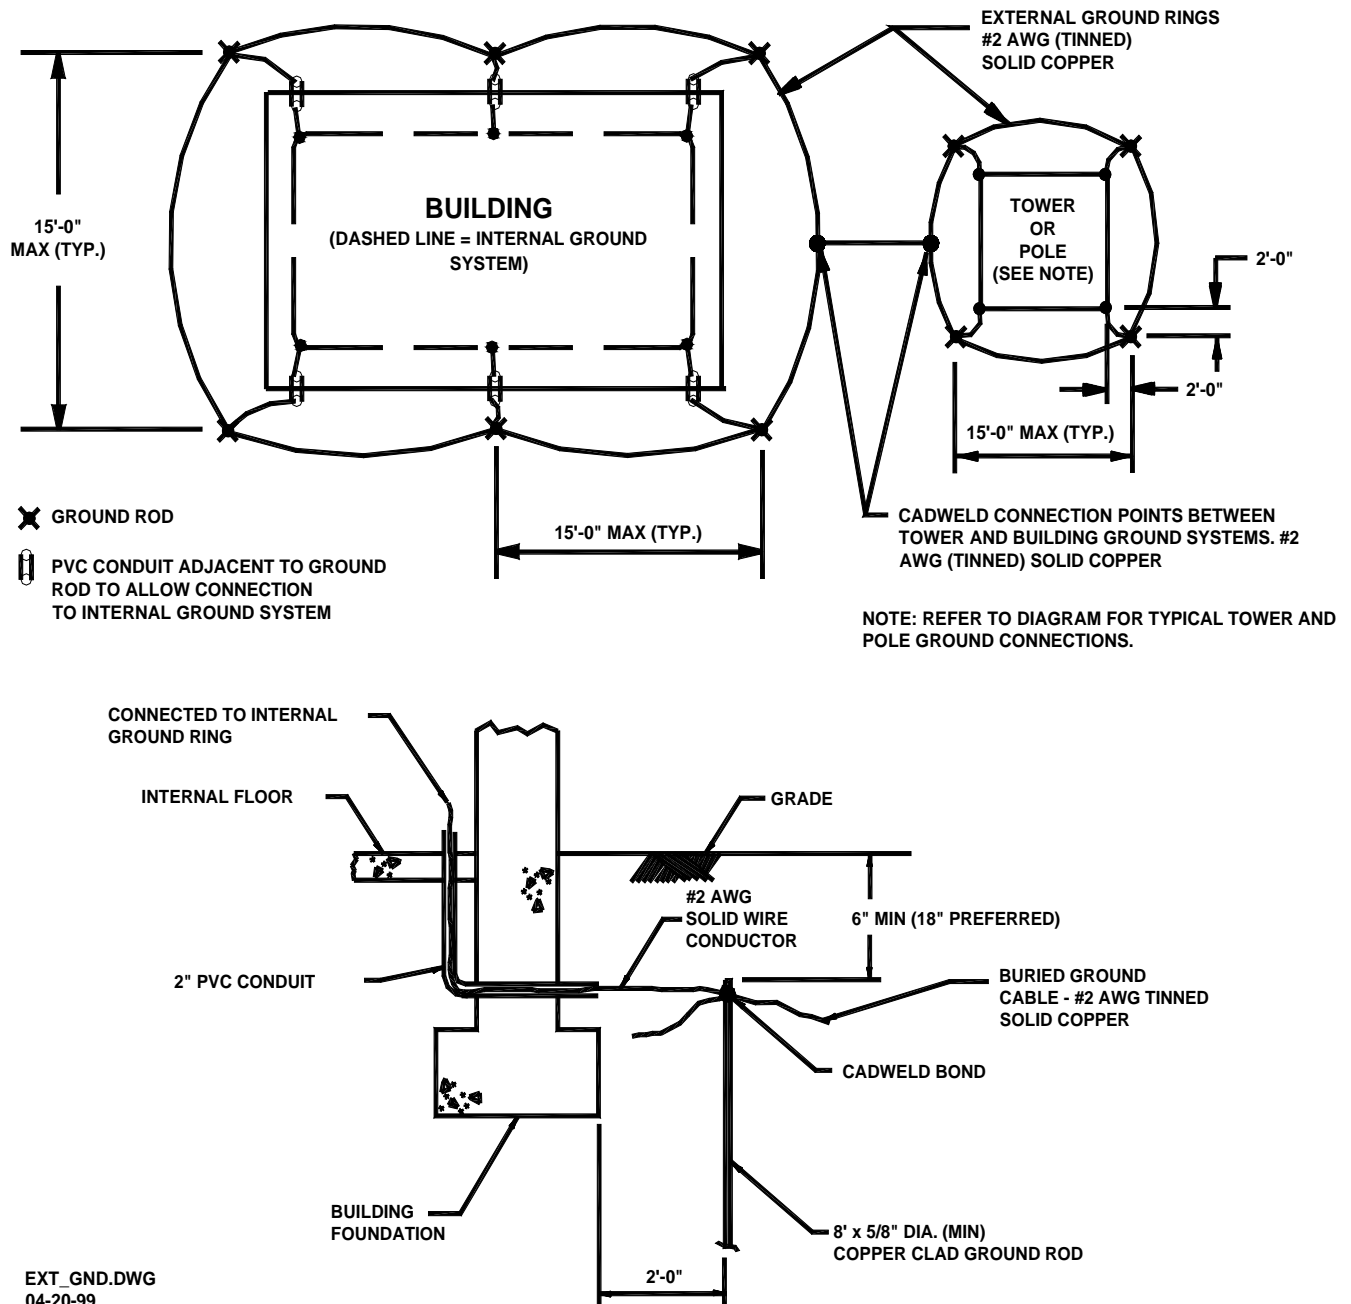

Figure E-1
Grounding electrodes should be a minimum of 8 feet in length and located approximately 2 feet away from each corner of the building with the top of each element at least 6 inches below grade (18 inches preferred). Spacing between electrodes should not exceed 15 feet. The ground elements should be bonded together with a ring of #2 AWG solid copper wire. All below-grade connections shall be Cadwelded (or equivalent exothermic weld). Refer to figure E-1 for typical external ground connections.
- A conductor from each ground electrode to the closest corner of the building, passed up through the floor and up the inside wall to connect with an internal ground ring located 6 inches from the inside ceiling (sides of buildings wider than 15 feet also use conductors from ground electrodes placed between the corners at maximum 15 foot intervals - see figure E-1).
As with all elevated metal objects, antennas will attract lightning strikes. An adequate and effective antenna ground is required for proper radiation and to minimize electrical noise and interference. On tower and pole-equipped sites, the antenna should be well grounded by means of a #2 AWG solid copper conductor connection from the tower or pole grounding element(s) to the tower/pole ground ring (see figure E-3). The tower ground system should have 5 ohms or less earth resistance and should be connected to the building ground system (see figure E-1). The transmission line should be brought off the tower or pole with the sharpest bend permitted by the manufacturer's specifications to act as a spot impedance to the extremely high strike current. The antenna cable should be grounded to the tower/pole-grounding conductor prior to the bend on its way to the building (for antenna installation, refer to the radio manual).